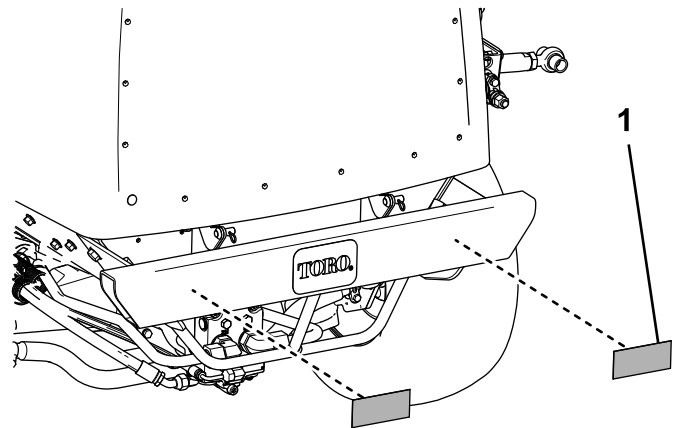

Figure 6
1. Clean the face of the bumper with alcohol, and allow it to dry (Figure 6).
3. Align the reflector to the bumper as shown in Figure 6, and adhere it to the bumper.